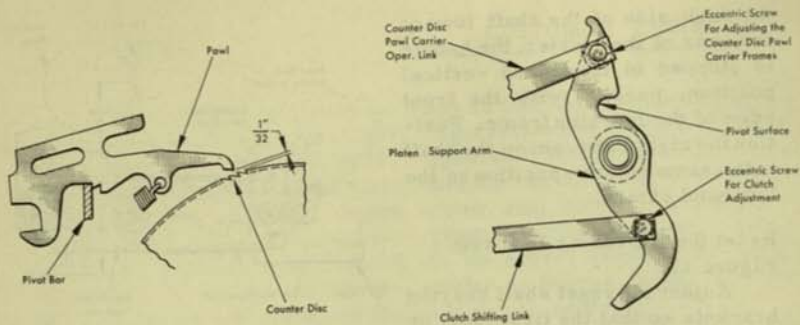

Figure 22
3. Adjust the eccentric screws at the upper end of the platen support arm so that the pawl carrier frames lift the pawls out of the counter disc ratchet wheels by $1/32''$ when the graph print lever is in the reset or printing position. Both sides should be adjusted evenly and the studs should have their high sides in the same direction (Figure 22).